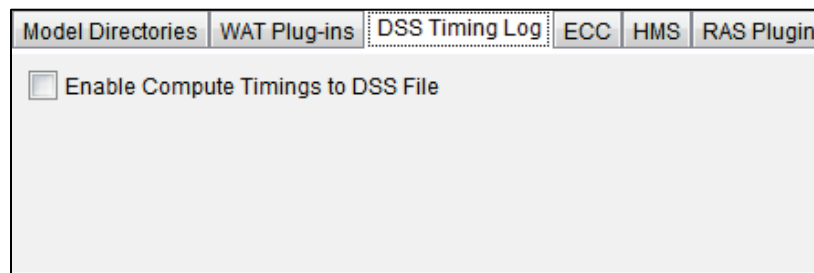

Figure B.17 Options Dialog Box – DSS Timing Log Tab
1. From the HEC-WAT main window (Figure B.2), from the **Tools** menu, click **Options**. The **Options** dialog box will open (Figure B.3), click the **DSS Timing Log** tab (Figure B.17).
2. Click **Enable Compute Timings to DSS File** (Figure B.17), this will enable the tracking of compute timings in DSS files. The tracking information will be written to the DSS log file (Section B.4). Click **Apply**, to set the tracking of compute timings in DSS files.